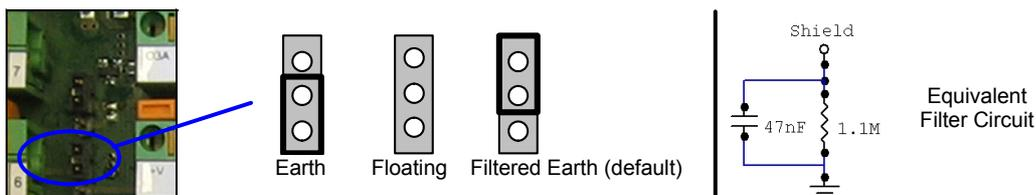

Figure 4 - Host 2 Shield Jumper Settings
- *Connect the reading device chassis to earth ground through the jumper, (default setting, see Figure 4).*